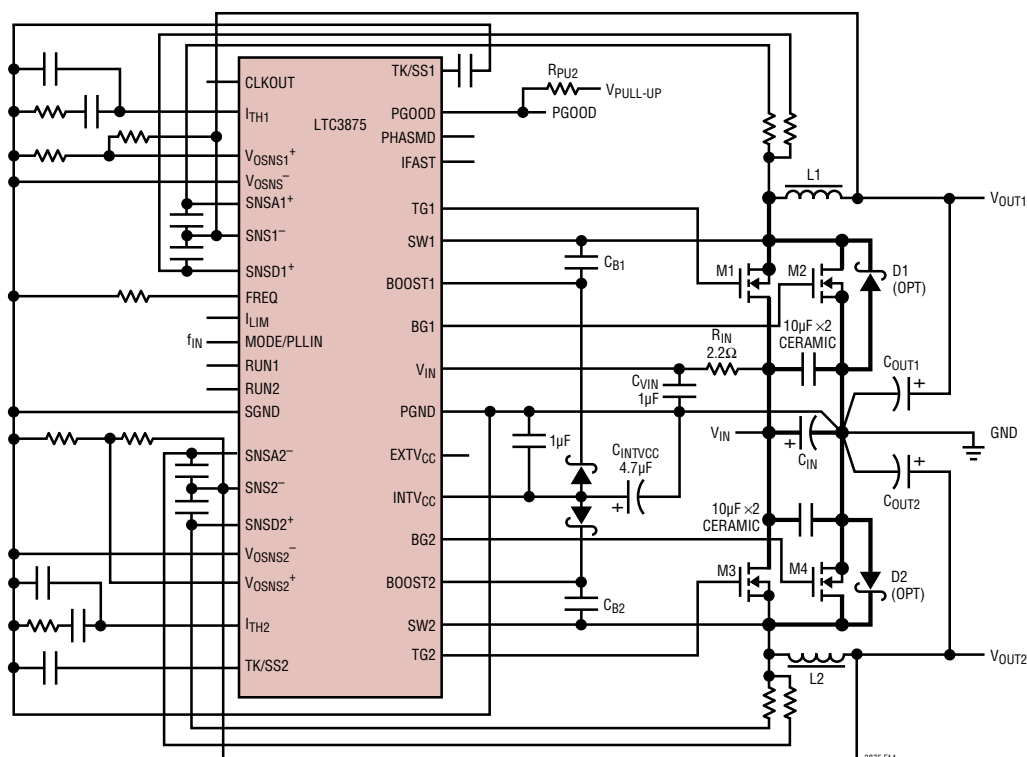
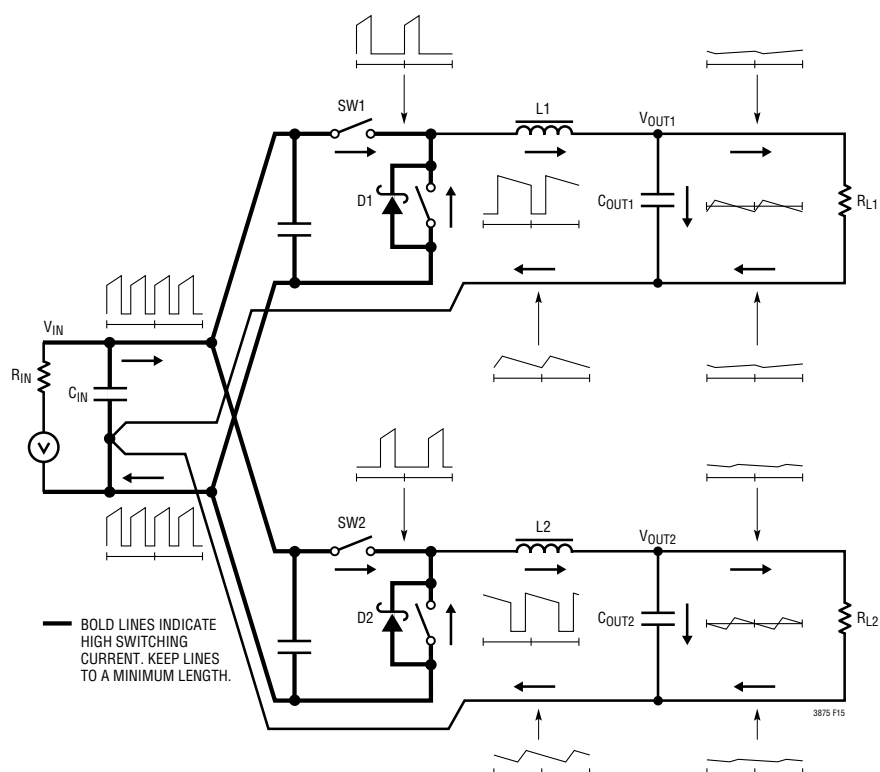

Figure 14. Recommended Printed Circuit Layout Diagram
Figure 15. Branch Current Waveforms
When laying out the printed circuit board, the following checklist should be used to ensure proper operation of the IC. These items are also illustrated graphically in the layout diagram of Figure 14. Figure 15 illustrates the current waveforms present in the various branches of the 2-phase synchronous regulators operating in the continuous mode. Check the following in your layout:
9. The 47pF to 330pF ceramic capacitor between the ITH pin and signal ground should be placed as close as possible to the IC. Figure 15 illustrates all branch currents in a switching regulator. It becomes very clear after studying the current waveforms why it is critical to keep the high switching current paths to a small physical size. High electric and magnetic fields will radiate from these loops just as radio stations transmit signals. The output capacitor ground should return to the negative terminal of the input capacitor and not share a common ground path with any switched current paths. The left half of the circuit gives rise to the noise generated by a switching regulator. The ground terminations of the synchronous MOSFET and Schottky diode should return to the bottom plate(s) of the input capacitor(s) with a short isolated PC trace since very high switched currents are present. External OPTI-LOOP® compensation allows overcompensation for PC layouts which are not optimized but this is not the recommended design procedure.